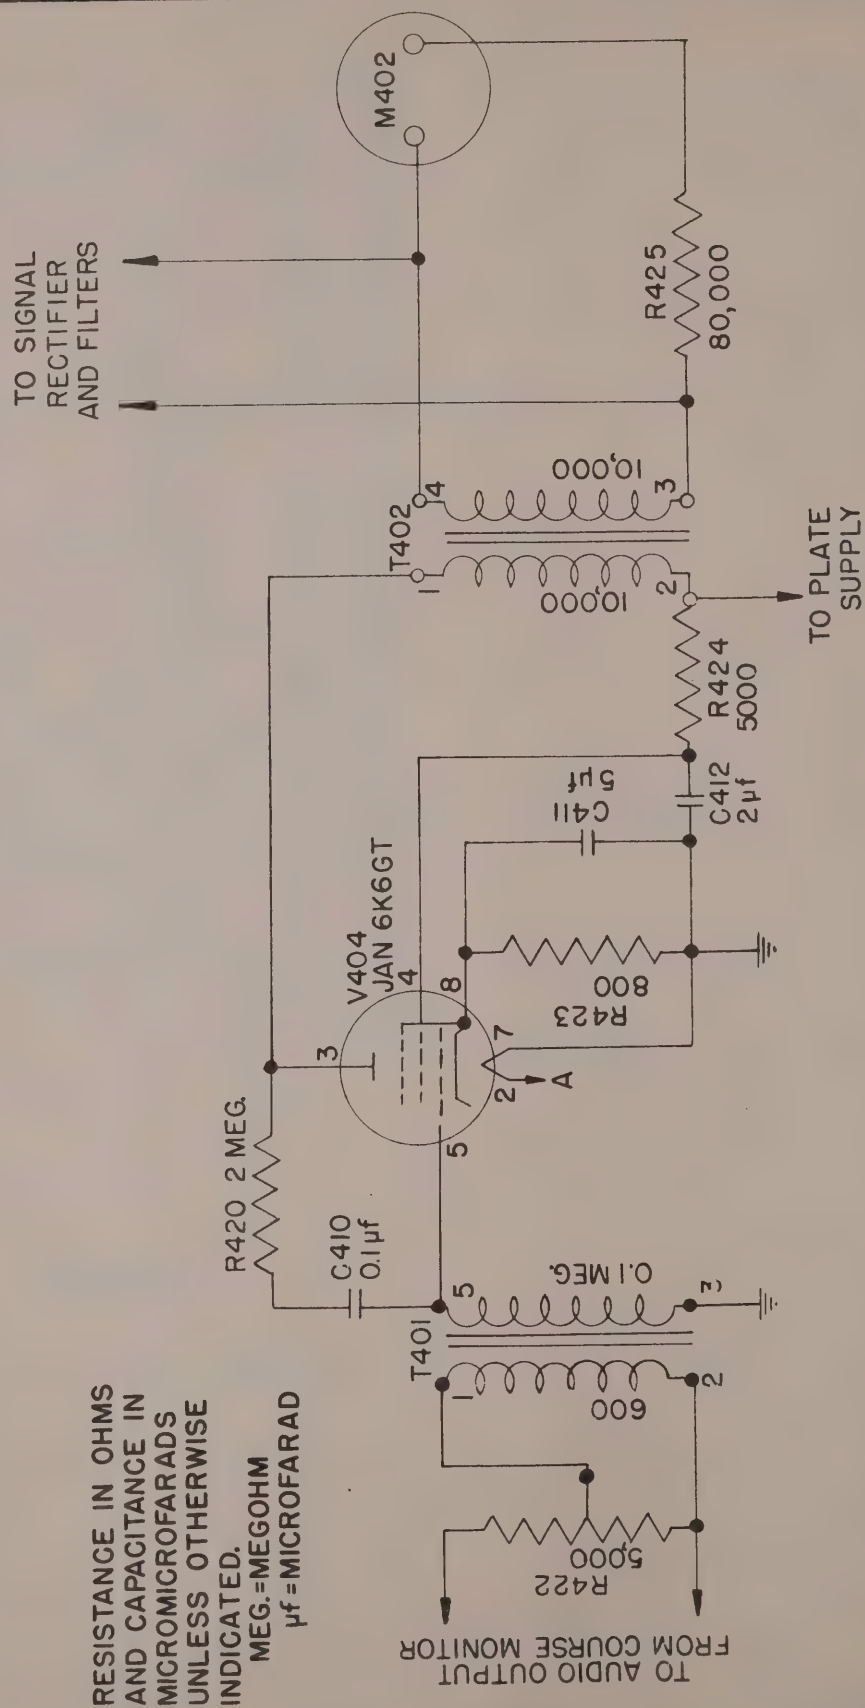
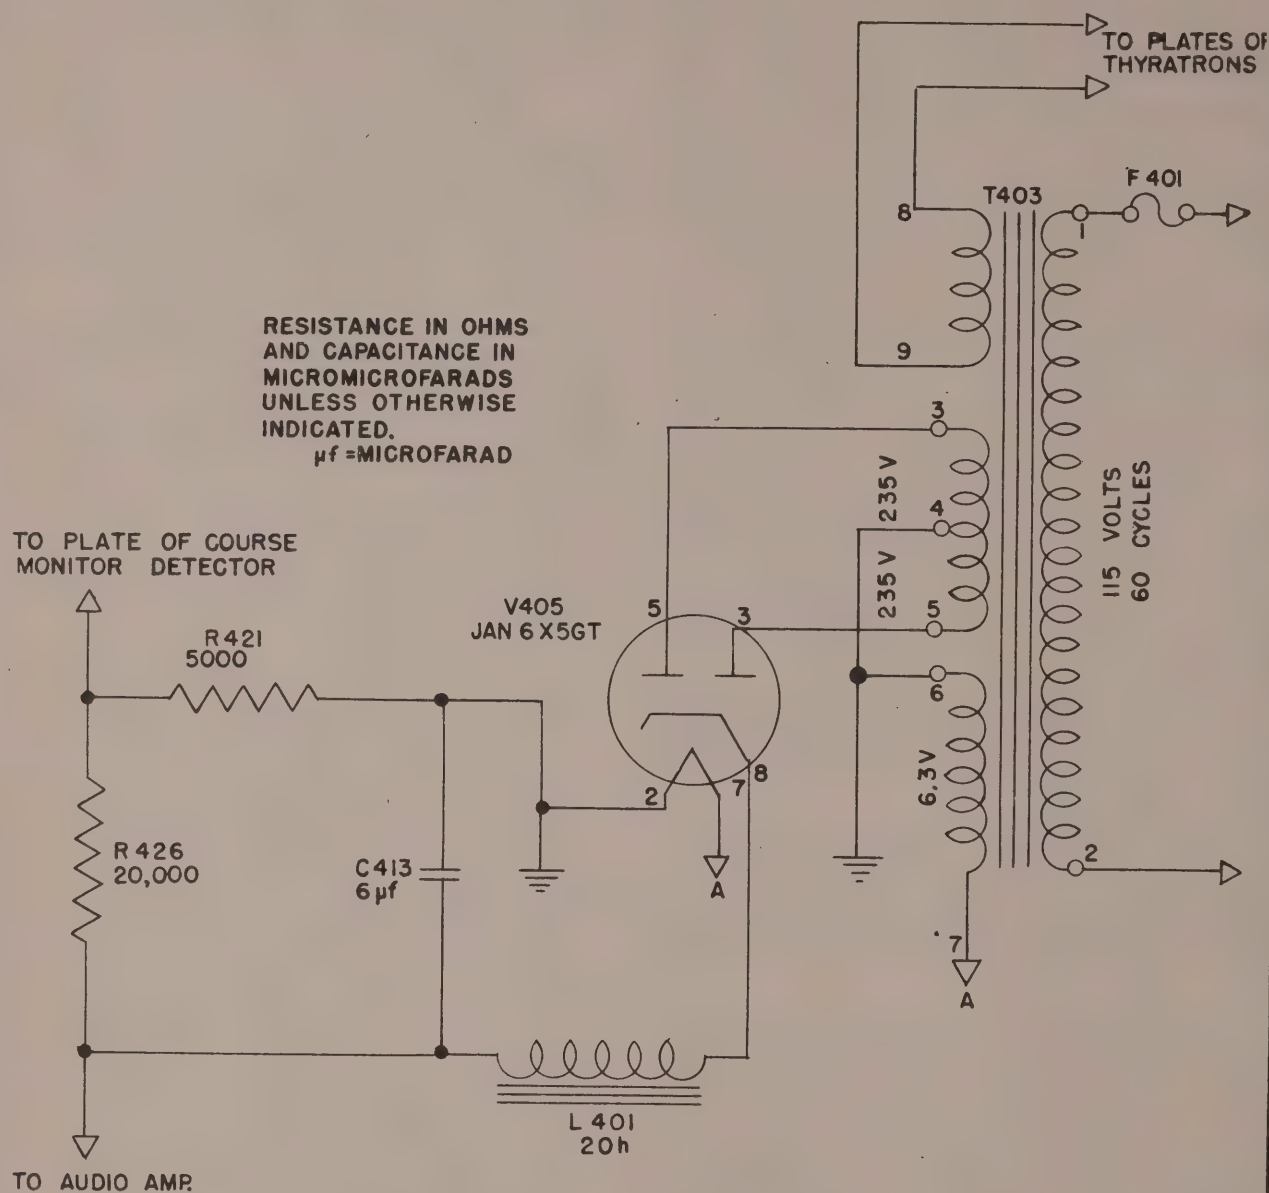

Figure 4-34. Audio Amplifier—Functional Diagram
Figure 4-35. Power Supply-Functional Diagram
(1) The power supply circuit supplies filament and plate voltage for the operation of tubes in the indicator ID-70/CRN-10 or ID-70A/CRN-10 and course monitor TS-180/CRN-10.
(2) The amplifier circuit receives the audio signal from course monitor TS-180/CRN-10 and amplifies it before applying it to the filter circuit, alarm tube, and the "FILTER INPUT" meter.
(3) The filter circuit divides the audio signal into 90- and 150-cycle channels and rectifies them. The rectified 90- and 150-cycle signals are then passed on to the alarm circuit and level-indicating meters in indicator ID-70/CRN-10 or ID-70A/CRN-10 and course monitor TS-180/CRN-10.
(4) The alarm circuit receives the 90- and 150-cycle signals. Through a system of relays, alarm lights, and bell the alarm circuit advises the operator of any *course shift* or appreciable drop in signal level.
(5) The audio voltage (90 and 150 cycles) from the course monitor TS-180/CRN-10 is applied to the 600-ohm winding of transformer T-401 by means of "SENSITIVITY" control R-422. (See figure 4-34.) The secondary of transformer T-401 is connected to the grid of V-404 (JAN-6K6GT) which is operated as a class A audio amplifier. Capacitor C-411 is an audio bypass capacitor across the cathode bias resistor R-423. Resistor R-424 and capacitor C-412 form a resistance-capacitance filter in the screen voltage supply. Transformer T-402 forms the plate load for the amplifier tube. Resistor R-420 and capacitor C-410 are a feedback network to equalize the audio-frequency response of the amplifier at 90 and 150 cycles.
(6) The amplified audio voltage is coupled through capacitor C-408 to the input of the 90- and 150-cycle filters. Meter M-402 in series with resistor R-425 is connected across the output of the audio amplifier for the purpose of setting the input level to the 90- and 150-cycle filter in the course indicator circuit.
(7) The power supply furnishes plate power for the detector tube V-301 in course monitor TS-180/CRN-10 and the audio amplifier tube V-404 in indicator ID-70/CRN-10 or ID-70A/CRN-10 as well as all heater power for both the course monitor and indicator. (See figure 4-35.)